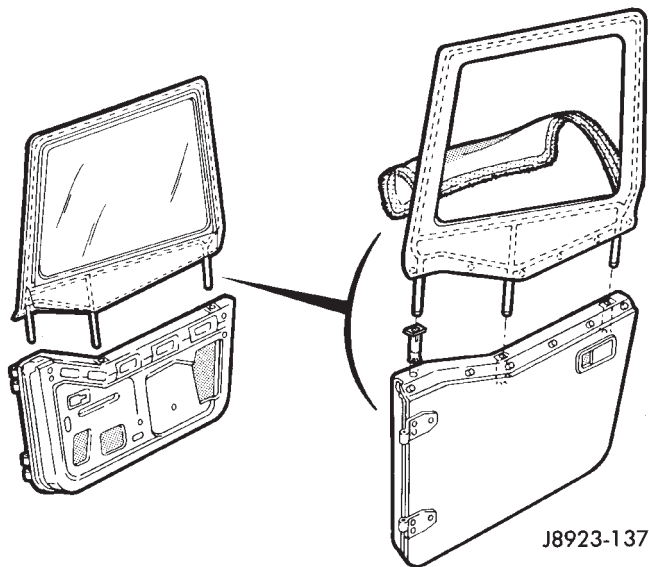

Fig. 42 Half Window
- (1) Open the door.
- (2) Grasp the window at both front and rear edges and firmly lift upward (Fig. 42).